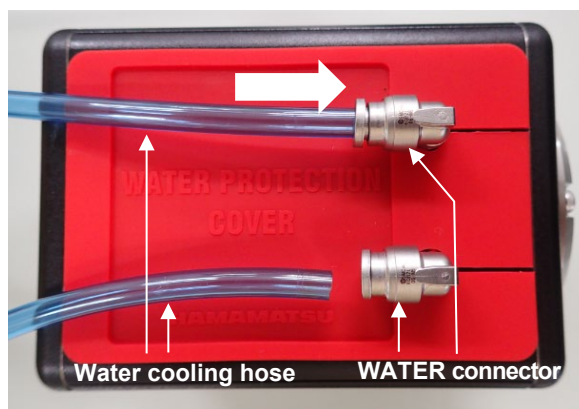

Figure 8-5
- Insert the hose fully into the WATER connector on the camera. (as shown in Figure 8-5)